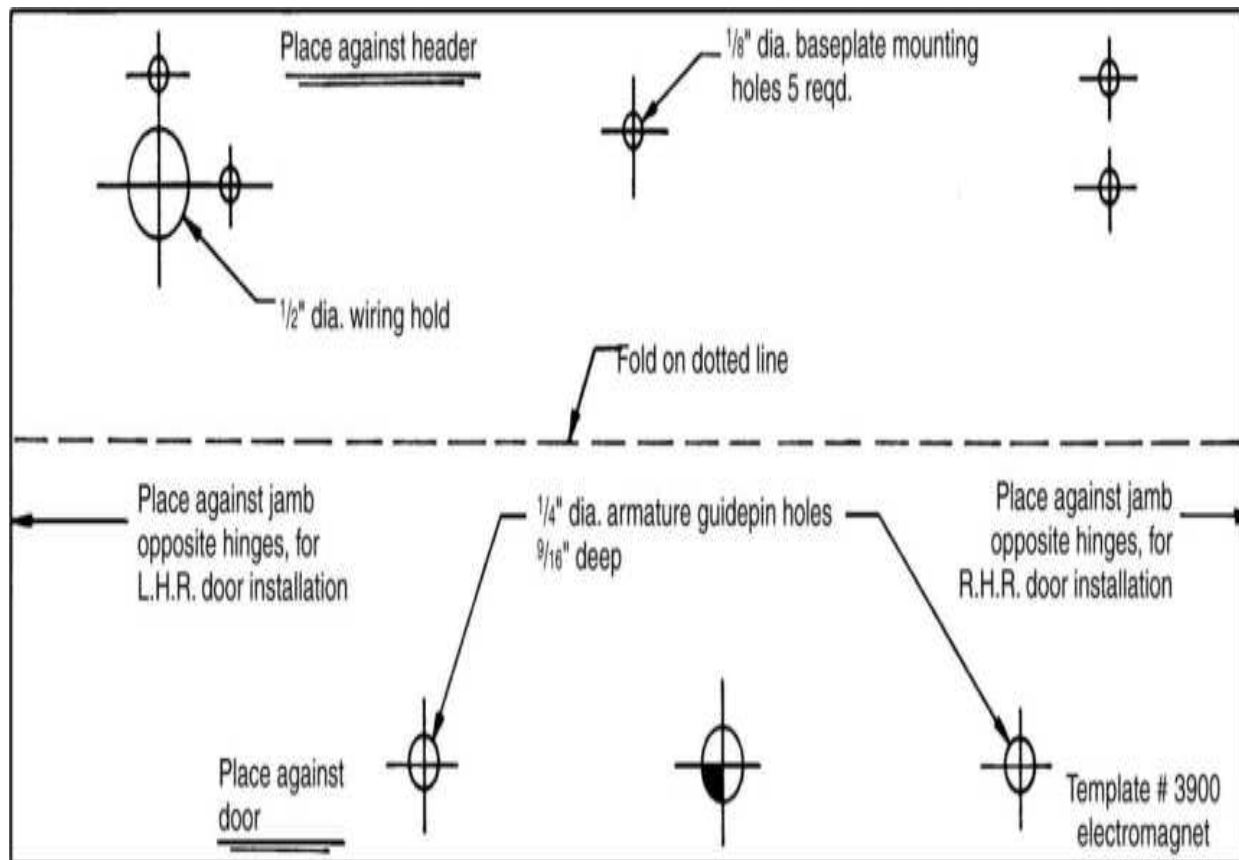

**Figure 19.56** Model 3900 lock template. (*Security Engineering, Inc.*)
1. Fold the template (Fig. 19.56) where indicated to form a 90° angle. For a swinging door, place the template against the door header and door opposite the hinge side of the door jamb. For a pair of swinging doors, place the template against the door and door header at the center of the door opening. Transfer the hole locations to the door and door frame header.
2. Follow the template instructions for the specific hole sizes required. See Fig. 19.56 to determine the proper armature mounting hole preparation. The hole is designated as the mark  in Fig. 19.56.